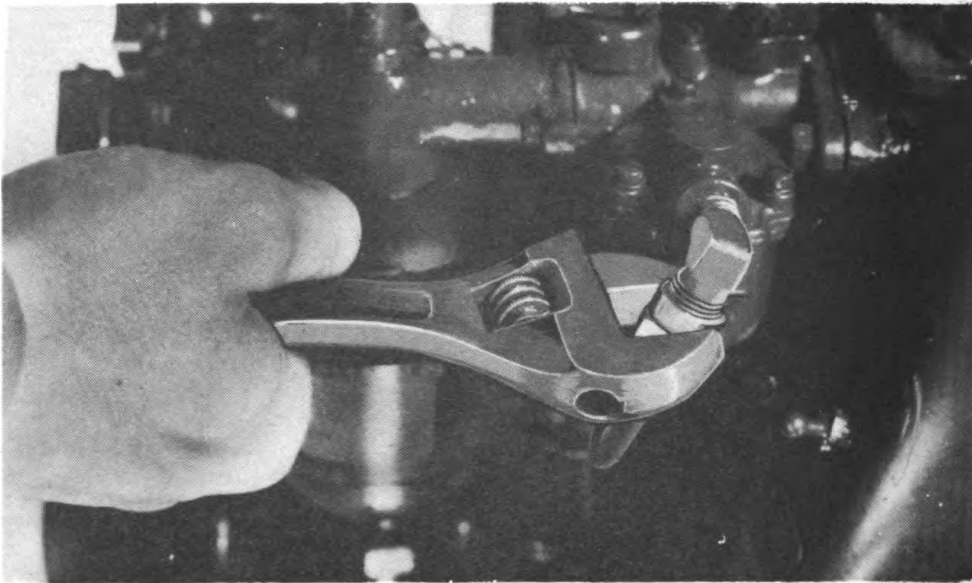

Fig 56. Breaking gasoline suction line at carburetor.
- a. Break gasoline suction line at carburetor by loosening union as shown in figure 56.